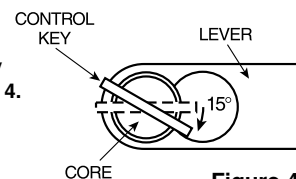

Figure 4
- Insert key marked CONTROL and turn clockwise approximately 15 degrees. See Figure 4.